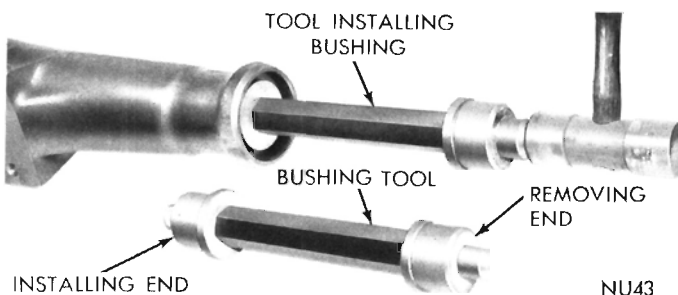

Fig. 57—Replacing Extension Housing Bushing
(2) **A-904:** Press or drive out bushing with Tool C-3996 (Fig. 57).
(3) **A-904:** Slide a new bushing on installing end of Tool C-3996. Align oil hole in bushing with oil slot in the housing, then press or drive bushing into place (Fig. 57).